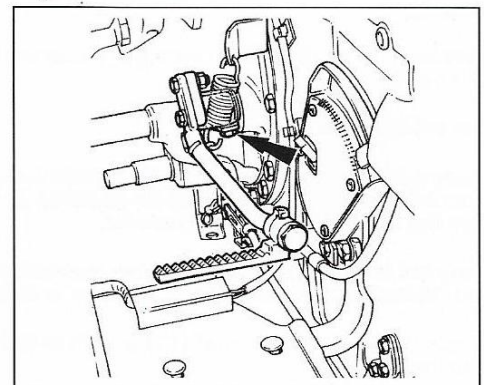

Fig. 93
1. Ensure that the pedal operates freely throughout its complete travel (Fig. 93).